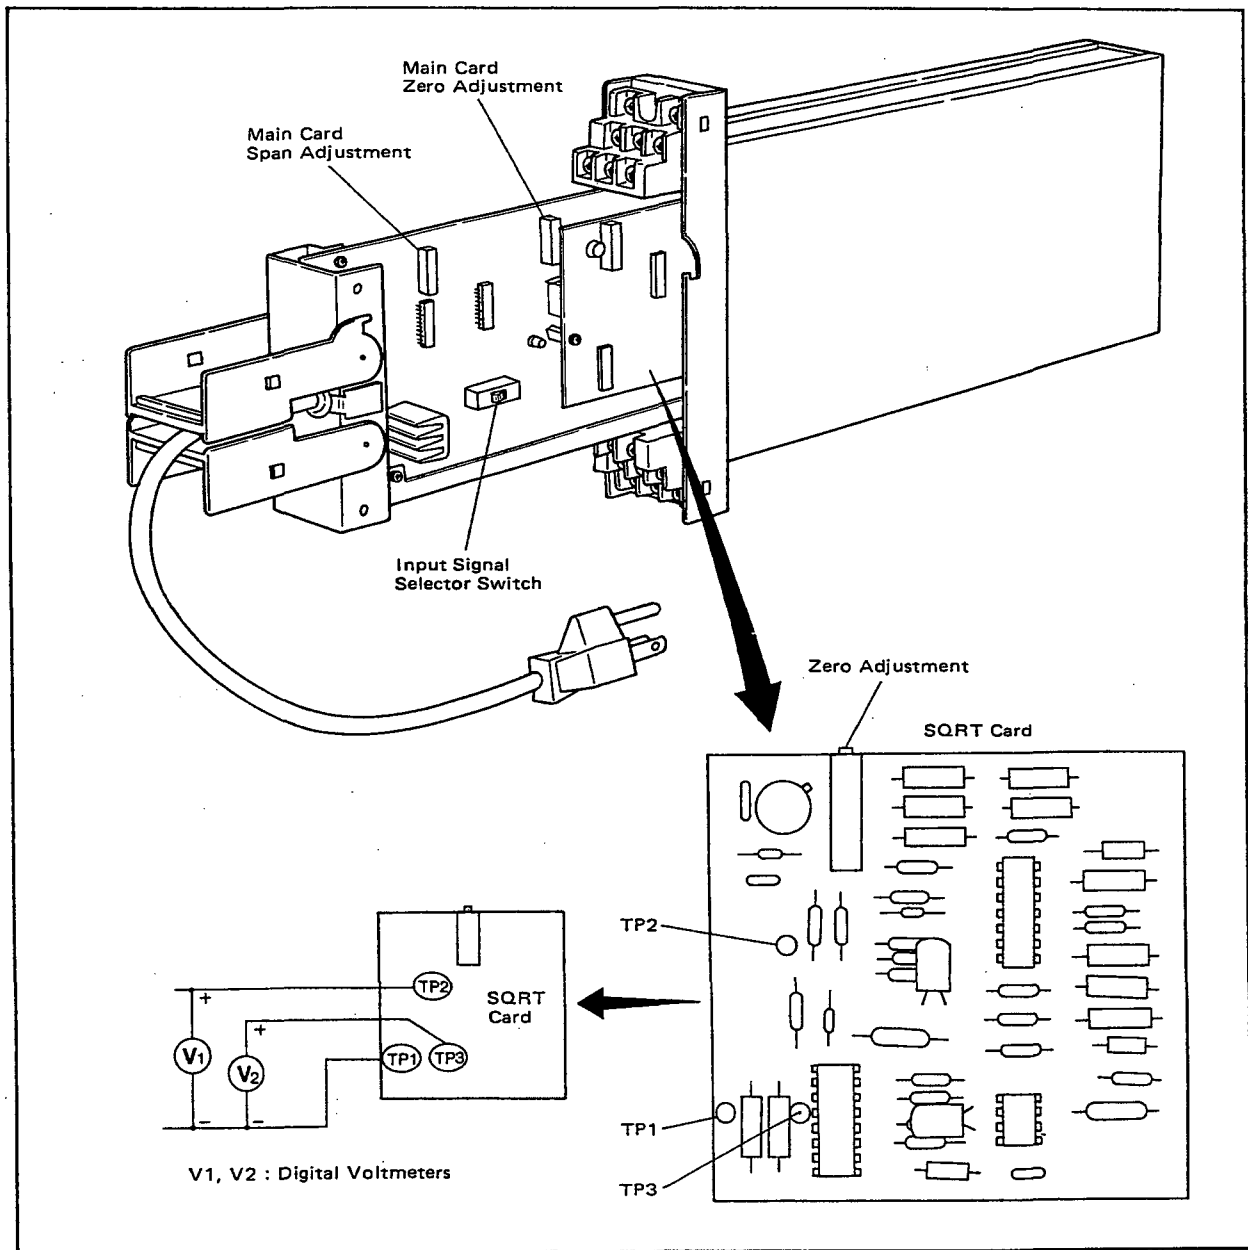

Figure 7-4. Connection of Digital Voltmeter, Zero Adjustment and Span Adjustment (SDBU-21□).
- (1) Perform the preparation described in paragraph 7-3-1.
- (2) Using a DC voltage standard, apply a voltage of 1 to 5 V DC to the instrument and adjust instrument zero and span so that the I/O value is within the values listed in Table 7-1 (see Figure 7-4 for the mounting positions of zero and span adjustments).
- (1) Connect two digital voltmeters between the test points TP1 and TP2 and between TP1 and TP3 on the Sqrt card as shown in Figure 7-4.